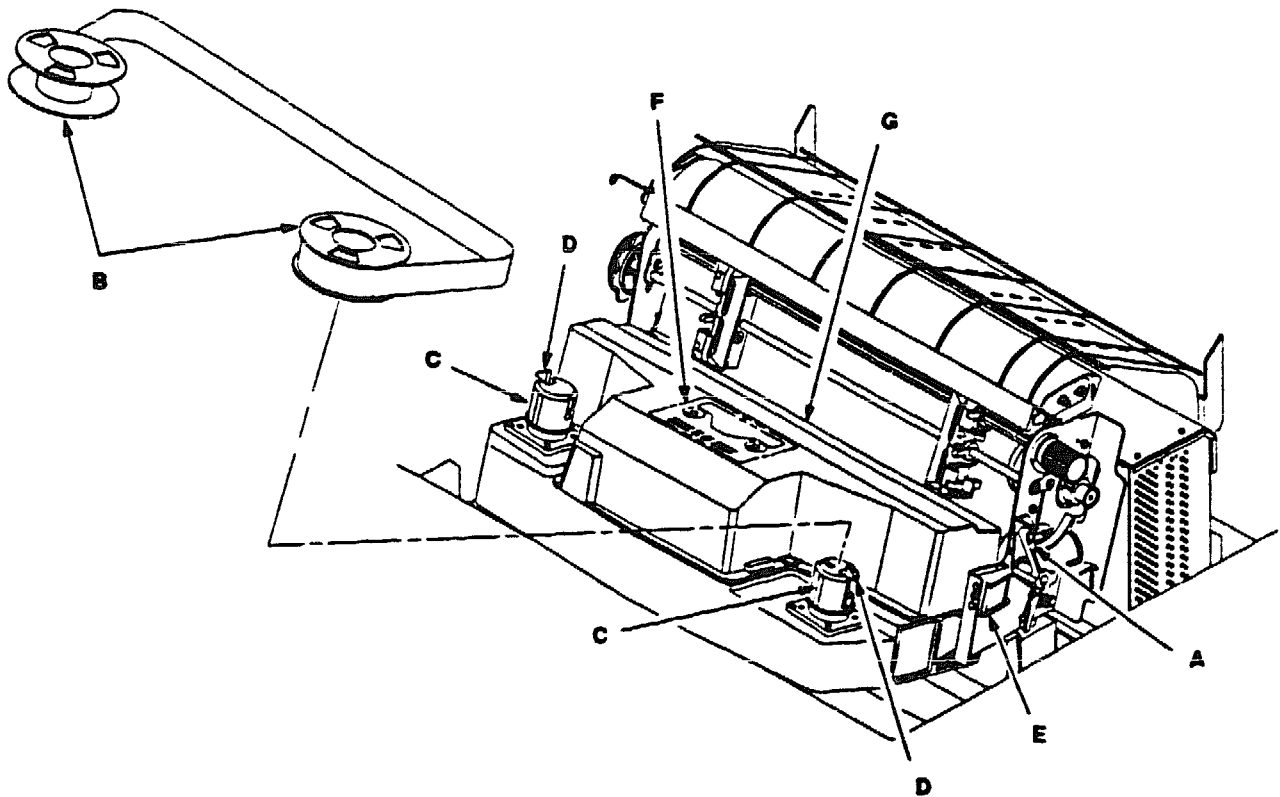

Figure 3-5. Removing and Installing the Ribbon
- a. Fully raise the forms thickness adjustment lever (A, Figure 3-5).
- b. Unlatch both ribbon spools (B) and carefully lift them off the hubs (C). Raise the ribbon out of the ribbon path. Discard the ribbon and spools.
- a. Place new ribbon spools (B) on the hubs (C) with the ribbon to the outside, as shown in Figure 3-5.
- b. Press each spool down until the latch (D) snaps in place.
- c. Thread the ribbon around the two ribbon guides (E) and through the ribbon path, as shown in the diagram (F). Manually turn the ribbon spools to ensure that the ribbon tracks correctly in the ribbon path.
5. Set the forms thickness adjustment lever (A) to match the paper thickness you are using. (A is recommended for thin paper, B for medium, and C for thicker paper.)